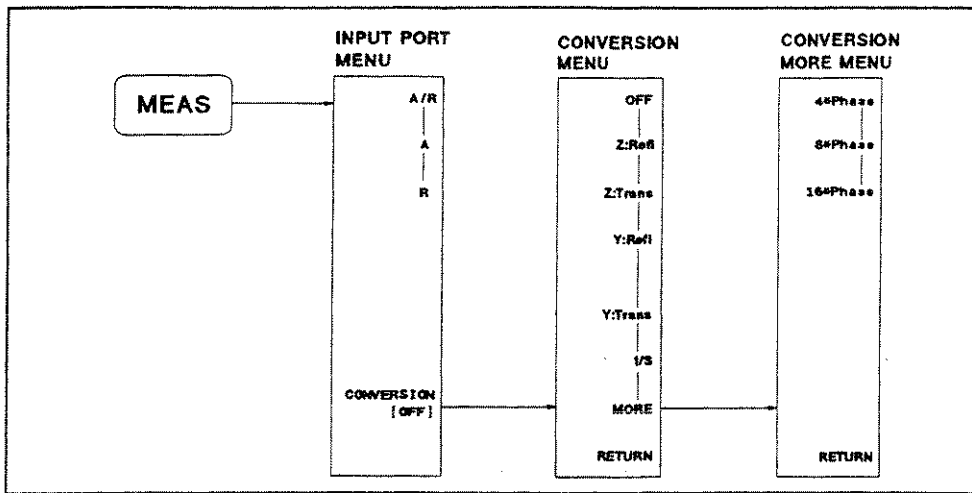

Figure 9-2. Softkey Menus Accessed from the **MEAS** Key
*Change Figure 9-2 to the following figure:*